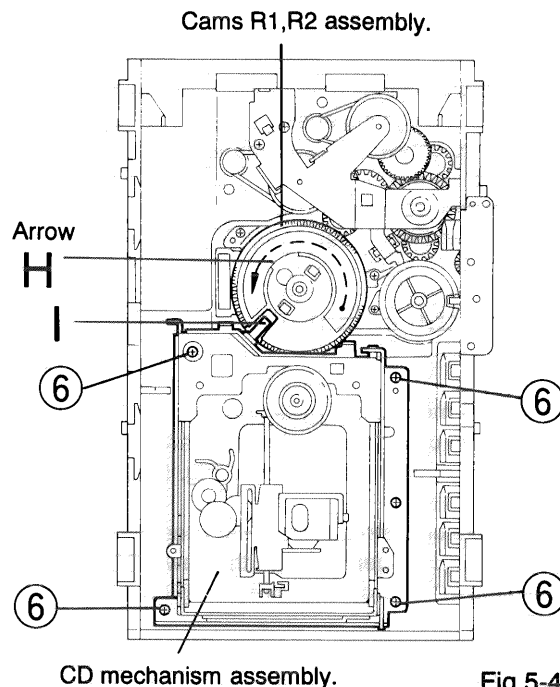

Fig.5-44
■ Removing the CD mechanism assembly (See Fig. 5-44)
1. While turning the cams R1 and R2 assembly in the arrow direction "H", align the shaft "I" of the CD mechanism assembly to the position shown in Fig. 5-44.
2. Remove the four screws ⑥ retaining the CD mechanism assembly (See Fig. 5-44).